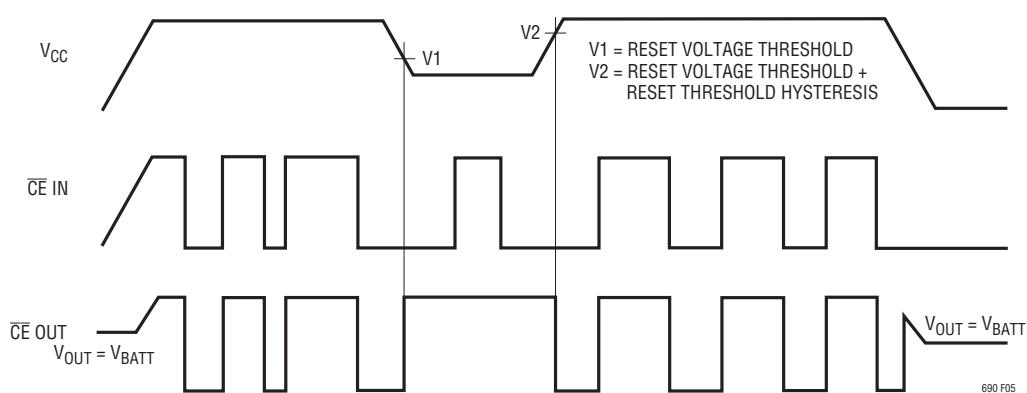

Figure 5. Timing Diagram for  $\overline{CE}$  IN and  $\overline{CE}$  OUT
**CE IN:** Logic input to the Chip Enable gating circuit.  $\overline{CE\ IN}$  can be derived from microprocessor's address line and/or decoder output. See Applications Information section and Figure 5 for additional information.
**CE OUT:** Logic Output on the Chip Enable Gating Circuit. When  $V_{CC}$  is above the reset voltage threshold,  $\overline{CE\ OUT}$  is a buffered replica of  $\overline{CE\ IN}$ . When  $V_{CC}$  is below the reset voltage threshold  $\overline{CE\ OUT}$  is forced high (see Figure 5).
input of battery-backed up CMOS RAM.  $\overline{CE}$  OUT can also be used to drive the Store or Write input of an EEPROM, EAROM or NOVRAM to achieve similar protection. Figure 5 shows the timing diagram of  $\overline{CE}$  IN and  $\overline{CE}$  OUT.